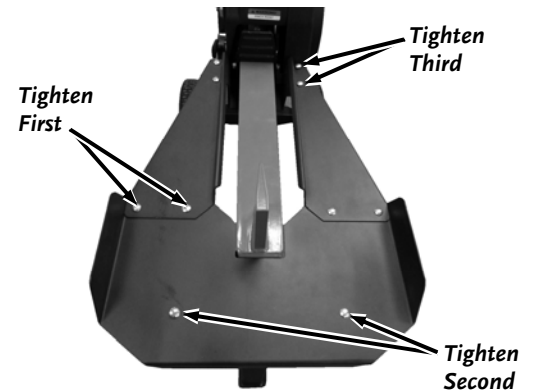

Figure 8
- First, tighten the four Bolts and Locknuts that secure the Cradle Extensions to the Tray and Support Brackets using a Ratchet and Extension with a 9/16" Socket (**Figure 8**).